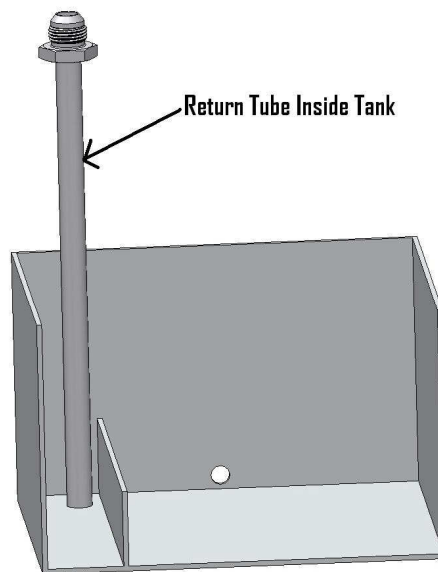

FIGURE 1-3
5. Drill two .375" holes near the bottom of the baffling running from the front to rear of the vehicle. Also construct an 8" x 1.6" x 1.6" wall along the bottom of the baffle box for the return to feed into. This will keep the fuel calm at the pickup point and reduce the chance of cavitation. **Figure 1-3**